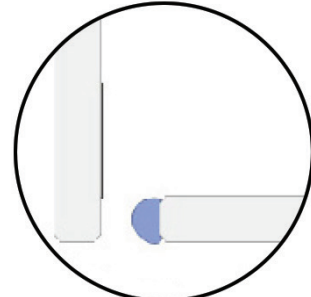

FIG 13.
- Run a continuous bead of silicon down entire length of 10mm face of installed wall to glass panel and across floor channel to the width of the glass to glass panel (**FIG 13**).